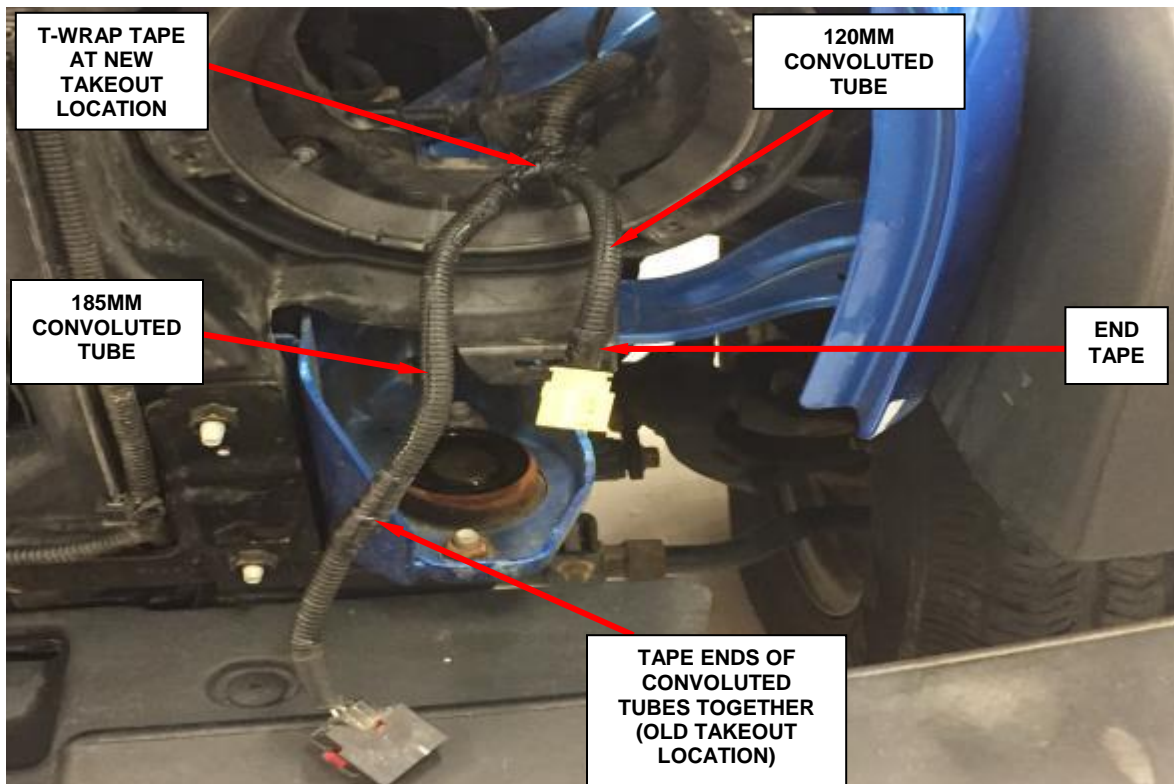

Figure 17 – Install Convoluted Tubes
44. Install the 185mm (7.5in) convoluted tube to wire harness (Figure 17).
45. Install the 120mm (4.75in) convoluted tube to left front impact sensor wiring pigtail (Figure 17).
46. Tape the end of the convoluted tube at the left front impact sensor (Figure 17).
47. T-wrap tape the new takeout location on the wire harness (Figure 17).
48. Tape the convoluted tubes at the old takeout location on the wire harness (Figure 17).